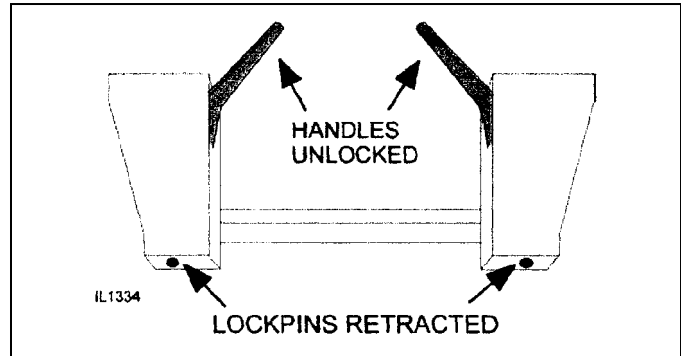

Figure 2. Coupler Handles - Unlocked
2. The coupler handles should be in the unlocked position with lock pins retracted, Figure 2.